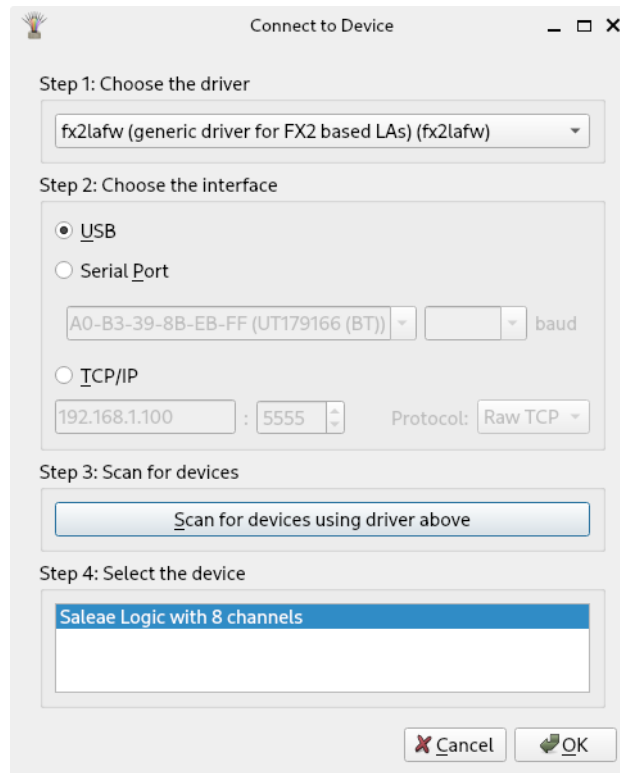

Figure 3.2: PulseView's "connect device" window
7. The window should look like Figure 3.2, if so, press `OK` at the bottom of the window.